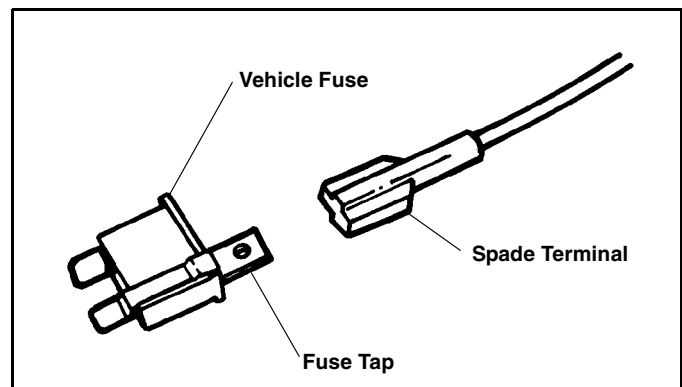

Figure 2-6
15. Using a test probe, determine the fused "Dead/OFF" side of the fuse and attach the A.T.O. fuse tap to that side of the fuse. (See Figure 2-6)